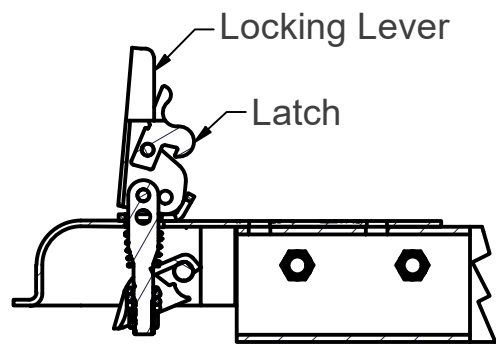

FIGURE 5:
3. Open the coupler locking lever by pulling the latch trigger and lifting the locking lever (See Figure 5).